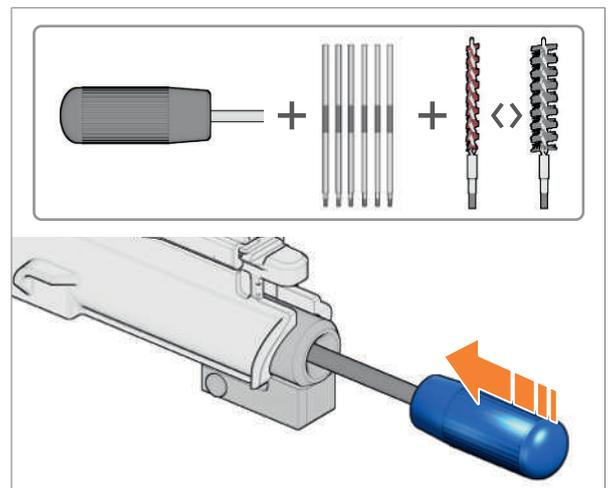

Fig. 107: Insert handle rod
4. Screw together handle rod, extension rods and oil brush / barrel cleaning brush (Fig. 107).
5. Insert the handle rod into the cleaning rod guide from the rear (Fig. 107).